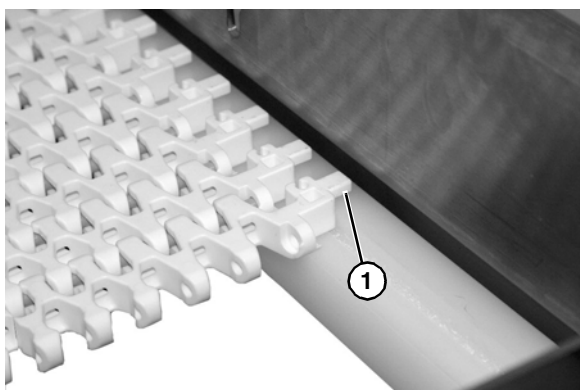

Figure 27
6. When feeding belt through straight section, be sure belt tabs ride on top lip of belt return (**Figure 27, item 1**).